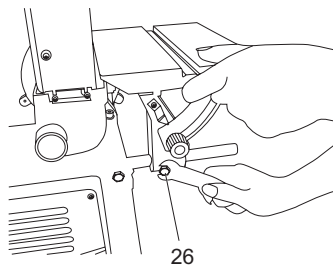

Fig. 21
- > Make sure the worktable hex screw (26) is fully secured. (Fig 21)